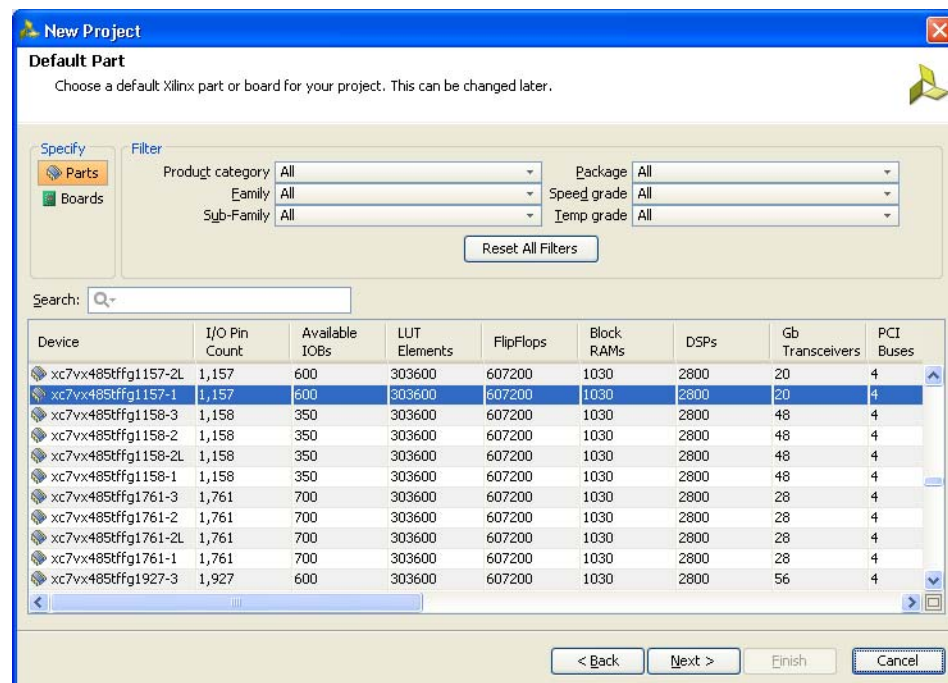

Figure 5-8: Default Part (Default Window)
8. Click **Next** to proceed to the **Default Part** page (Figure 5-8) where the device that needs to be targeted can be selected. The **Default Part** page appears as shown in Figure 5-8.